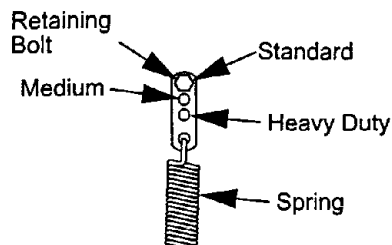

FIG. 16
- b) For a heavier drive setting, relocate the spring anchor link to either the "medium" or "heavy duty" positions as shown in Figure 16. The spring anchor links are attached to the upper rear corner of the hydro drive shields on the left and right hand sides of the machine.